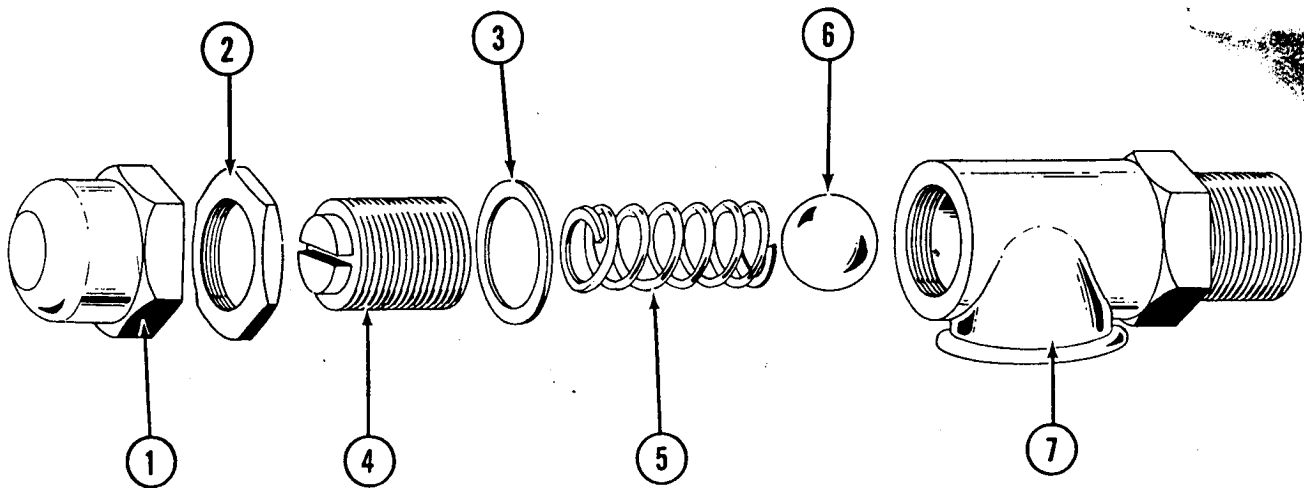

FIGURE 33. CONVERTER RELIEF VALVE DISASSEMBLY
Refer to Figure 33 and follow the numerical sequence as shown for disassembly. Remove valve cap (1). Remove locknut (2)
To reassemble relief valve, reverse the numerical sequence as shown in Figure 33.